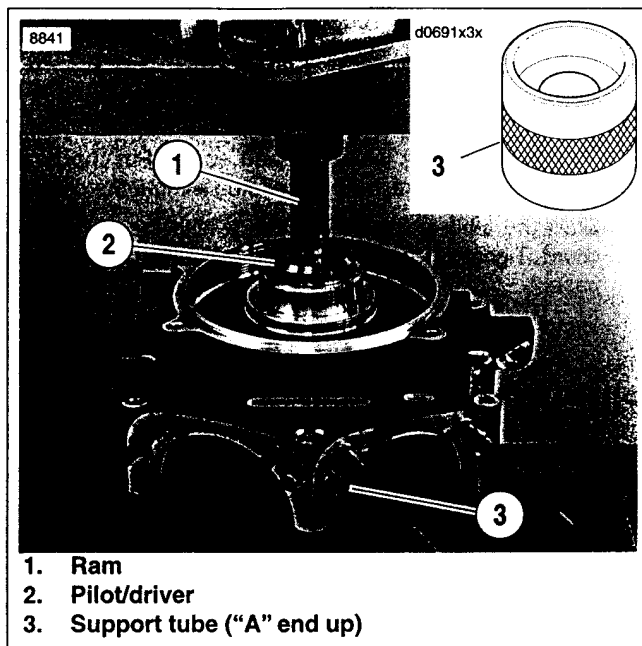

Figure 3-160. Left Crankshaft (Roller) Bearing Removal
8. See Figure 3-160. Place support tube (3) on hydraulic press table with the "A" end up. Note that the sides of the support tube are stamped "A" and "B" to indicate proper orientation.
10. Slide pilot/driver (2) through crankshaft (roller) bearing into support tube.
11. Center pilot/driver under ram (1) of press. Apply pressure to pilot/driver until bearing is free.